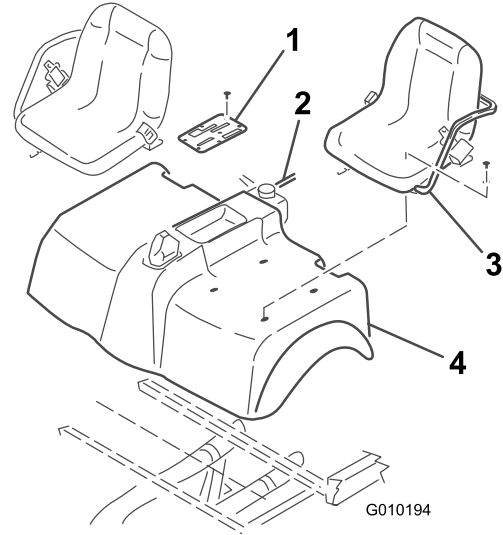

Figure 3
6. Remove the capscrews securing the seats and shroud to mounting brackets (Figure 3). Remove the seats and shroud.